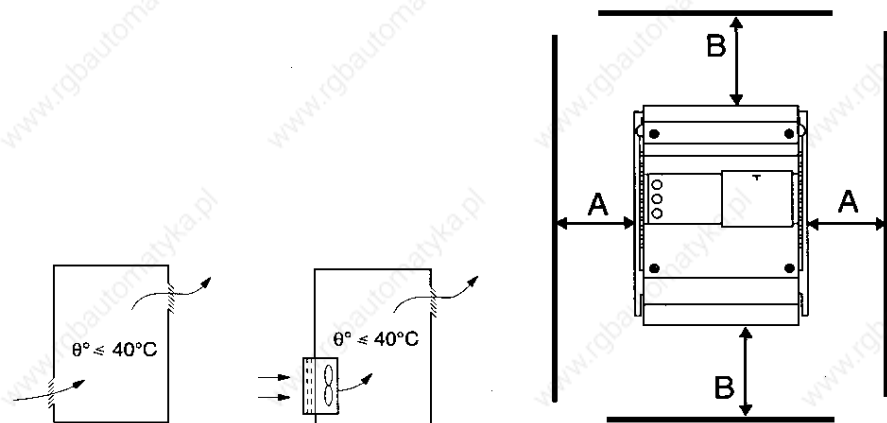

Figure 11 Ventilation and Clearances
- Leave sufficient space around starter (see Figure 11): $A \geq 2$ in (50 mm), $B \geq 4$ in (100 mm).